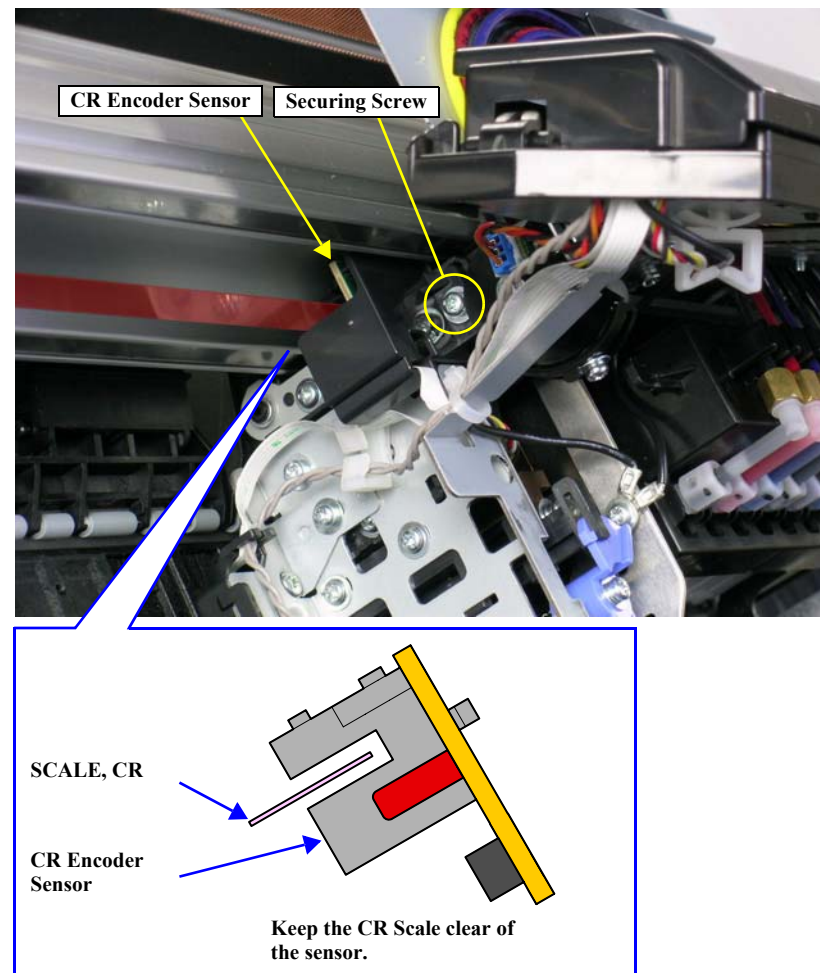

Figure 5-17. CR Encoder Sensor Adjustment
1. Move the Carriage from the home to the anti-home side to visually check if the CR Scale comes into contact with the CR Encoder Sensor as shown in Figure 5-17.